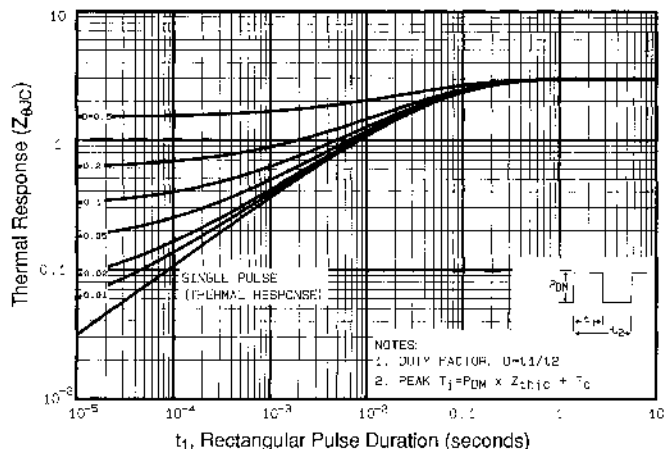

Fig 11. Maximum Effective Transient Thermal Impedance, Junction-to-Case
- ① Repetitive rating; pulse width limited by max. junction temperature (See Figure 11)
- ② $I_{SD}\leq 2.4A$, $di/dt\leq 50A/\mu s$, $V_{DD}\leq V_{BR/DSS}$, $T_J\leq 150^\circ\text{C}$